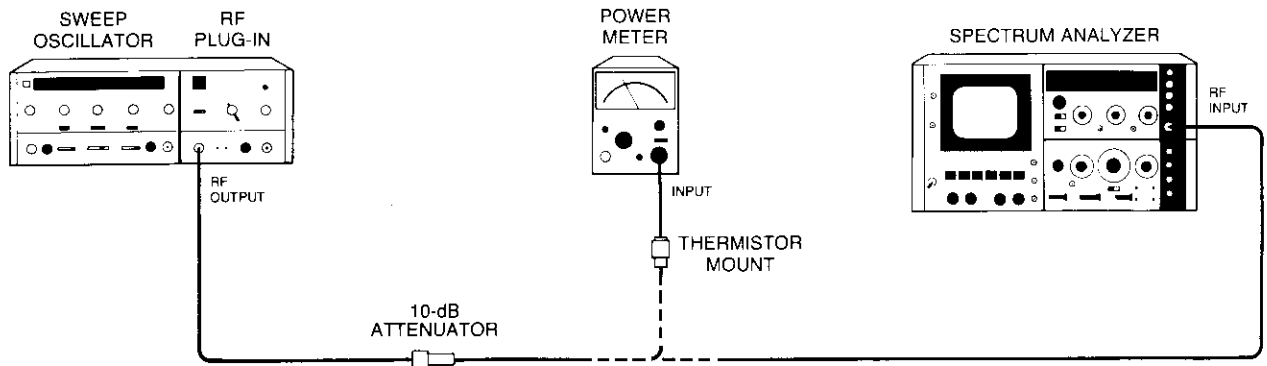

Figure 4-11. Spurious Signal Test Setup
a. Connect equipment as shown in Figure 4-11 with power meter connected through a 10-dB attenuator to 86290A RF OUTPUT connector. Allow 30 minutes warm-up time.